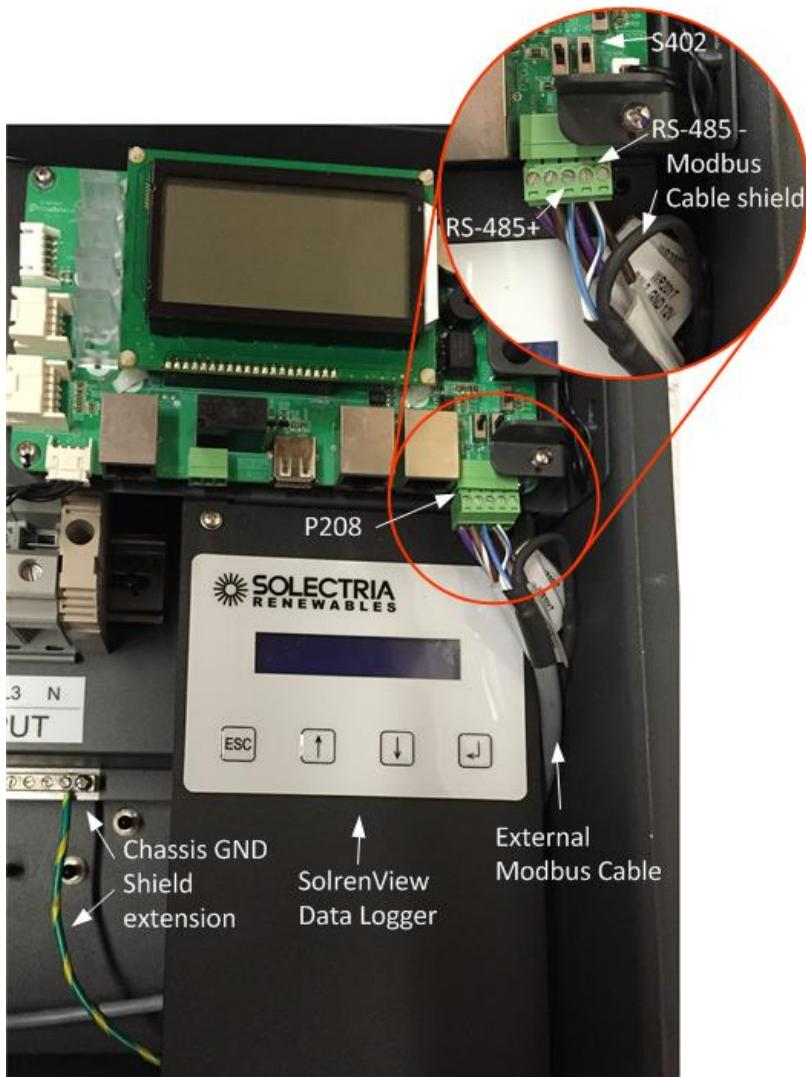

Figure 2.41 - SolenView Data Logger Installed Inside the PVI 36TL Wiring Box.
5. Extend the Modbus cable shield with additional wire so that it can reach to the Chassis GND terminal block as shown in Figure 2.41.
6. Connect the external Modbus (RS-485) cable to the green Phoenix connector (P208), ensuring correct polarity and using a matching twisted pair in the Modbus cable. See Figure 2.41. Care must be taken not to disconnect the Modbus wires coming from the SolrenView logger.